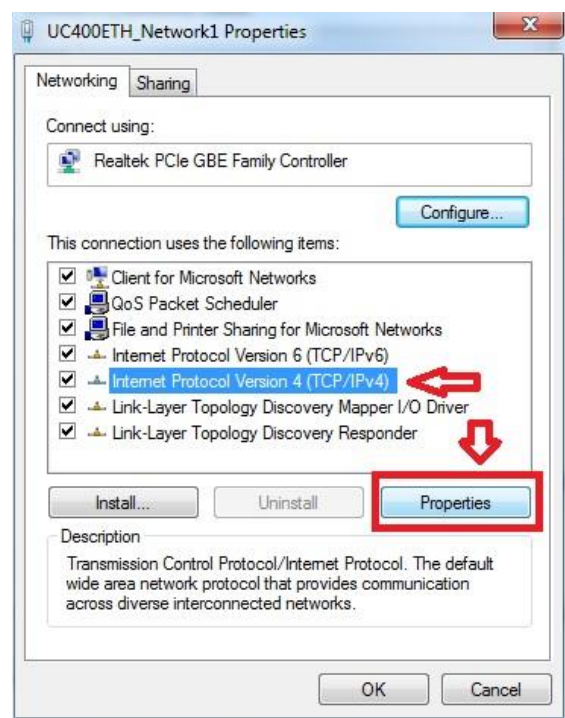

Figure 17: IPv4 Properties
- 6- On the popup window find and select the 'Internet Protocol Version 4(TCP/IPv4)' row and click the Properties button. See Figure 17.